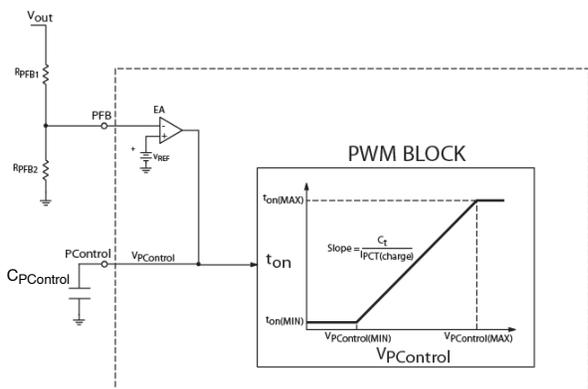

Figure 19. Error Amplifier and On Time Regulation Circuits
The NCP1927 error amplifier (EA) consists of an operational transconductance amplifier (OTA) with the inverting input connected to the PFB pin and the output connected to the PControl pin to regulate the output voltage. It features a typical transconductance (gm) of $200 \mu S$ and a maximum output ($I_{EA(SRC)}$ and $I_{EA(SNK)}$) of $\pm 20 \mu A$ (typical). The non-inverting input is connected internally to a voltage reference (V_{REF}) with a typical value of $2.5 V \pm 1.5%$ over process and temperature. During normal operation, the voltage on the PControl pin varies between $V_{PControl(MIN)}$ (typically $0.6 V$) and $V_{PControl(MAX)}$ (typically $5.6 V$). A simplified diagram of the OTA circuit is shown in Figure 19.
This creates a ripple on the output with frequency equal to twice the line frequency (f_{line}). Since the on time must remain constant during each ac line cycle to maintain good power factor correction, the EA must reject the output ripple. This is commonly achieved by setting the regulation bandwidth below 20 Hz . A type 1 compensation network is typically used for simplicity, as it only requires a single capacitor ($C_{PControl}$) connected between the PControl pin and ground (see Figure 19). For a type 1 network, $C_{PControl}$ is calculated using Equation 10.